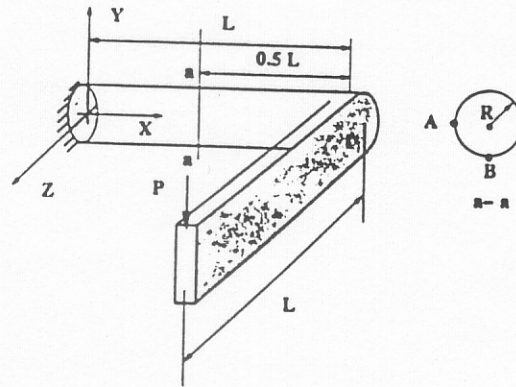

Figure 7: Problem 8
A L-shaped beam is made of a rectangular section and a solid cylinder section with radius $R = 0.1m$. The span of the both section is $L = 2.0 m$. There is a concentrated load, $P = 300N$, acting on the free-end of the rectangular (as shown in Figure 7.). (1) Draw the moment diagram, shear diagram, and